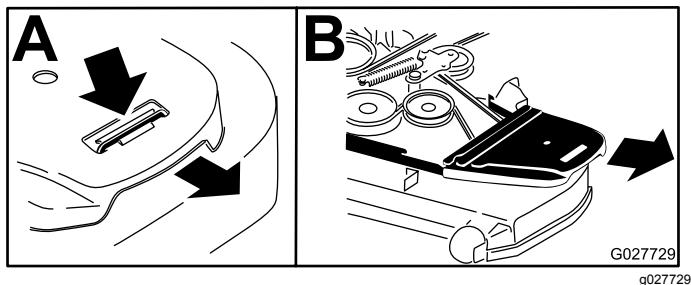

Figure 88
4. Remove the belt covers (Figure 88).